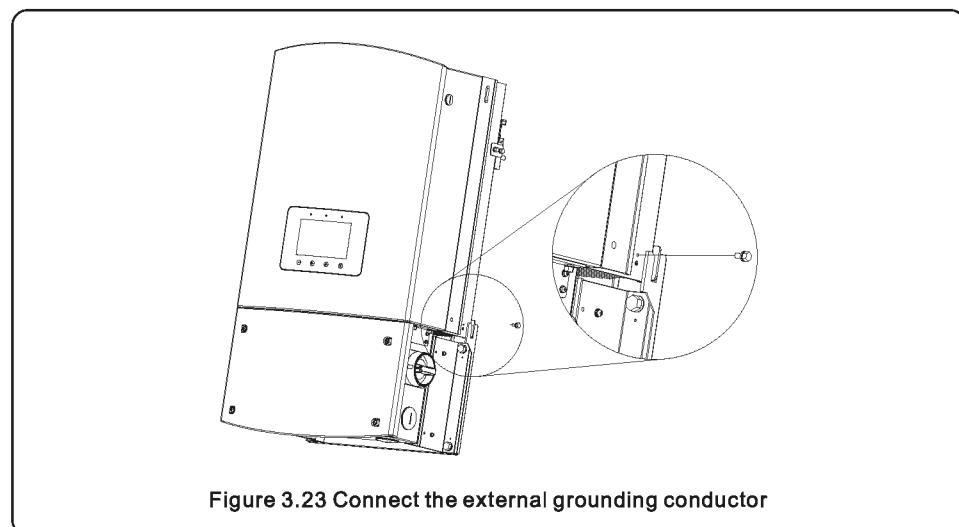

Figure 3.23 Connect the external grounding conductor
An OPTIONAL external ground connection (PE) is provided on the right side of the inverter. To use the OPTIONAL external ground connection (see Figure 3.23):